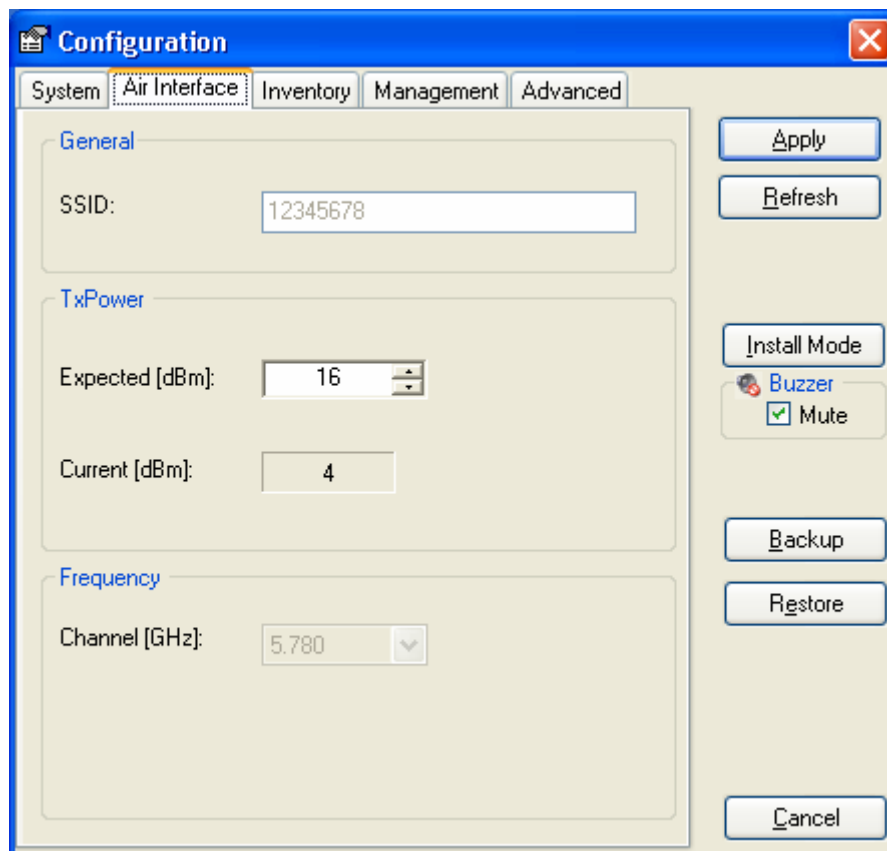

Figure 3-15. Changing the Transmit Power
3. Click the Air Interface Tab. (See *Figure 3-15*)
4. Select the required Transmit Power Level (See Figure 3-15, below).